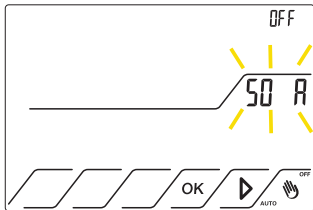

Fig.42
11.2.2 Press  up to position on **50 A** that it will start to flashing. The status is OFF. Fig.42